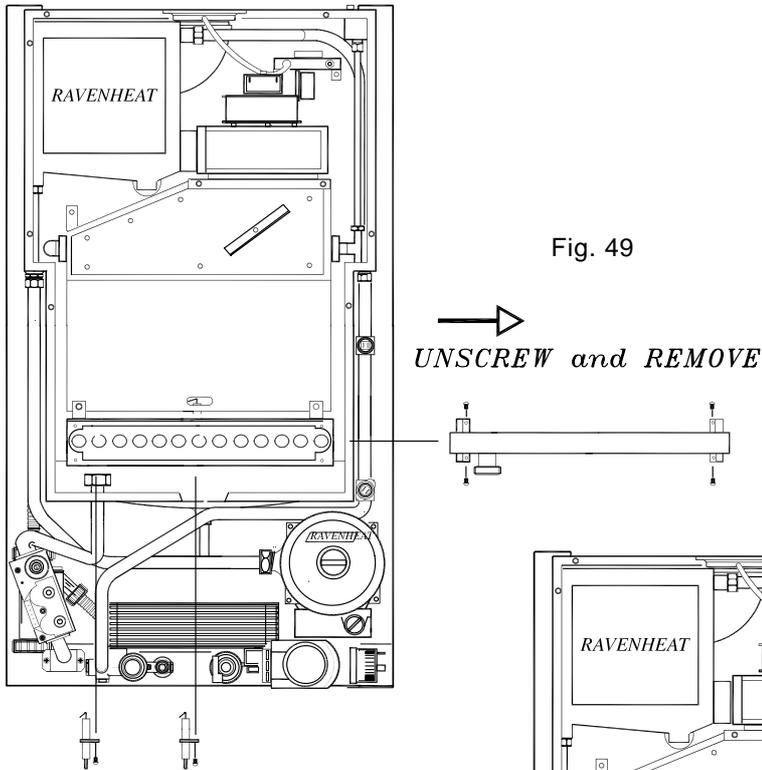

Fig. 49
7.10 TO REPLACE THE ELECTRODE (fig.49).
- 7.12.4 Pull the burner forward and remove (fig. 49).